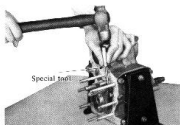

Fig. 9-9
12. Drive out the shift fork spring pin with the special tool spring pin puller (09922-85810) as shown in the Fig. 9-9 and remove the front drive shift fork, reduction clutch hub and reduction clutch sleeve.